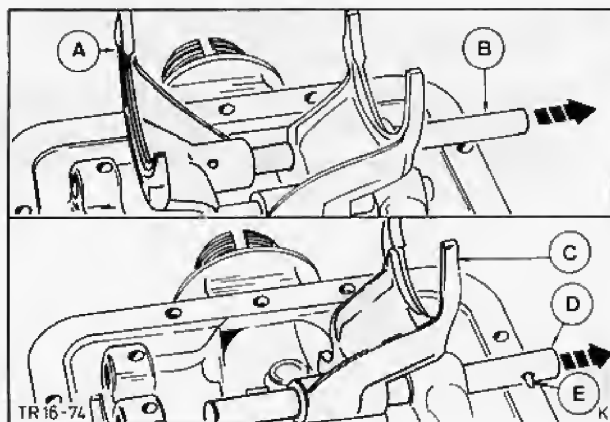

Fig. 125 A - 1st/2nd gear selector fork
1. Remove locking pin from 1st/2nd gear selector fork and rail. Then drive rail out from one side and detach selector fork. Watch out for ball and spring, Fig. 125.